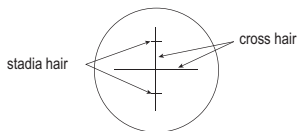

fig.5
1. Aiming the leveling rod, record the value of upper and lower stadia hair (see fig.5)